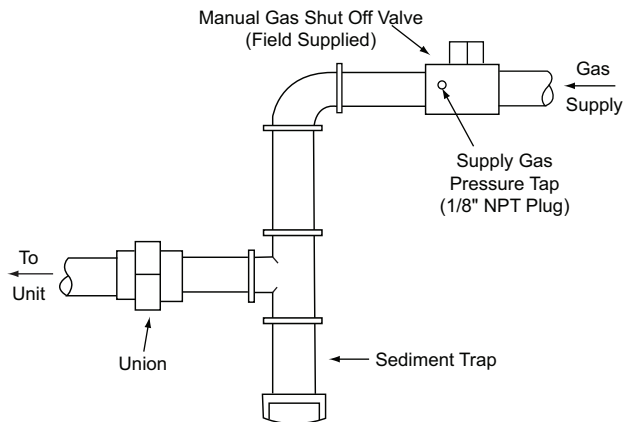

Fig. 9 — Field Gas Piping
2. Connect a pressure gage to the supply gas pressure tap, located on the field-supplied manual gas shut off valve (see Fig. 9).